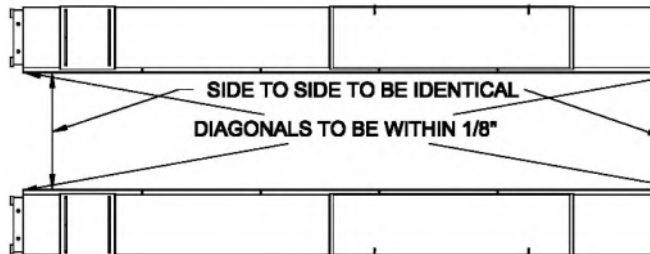

Fig 16 – Final Runway Positioning
- 18) Check the layout of the lift in the bay. (**This is the last opportunity to reposition the lift. Take a moment to determine the position of the front column anchors to ensure proper clearance from any crack, edge, or expansion joint. Ensure proper clearance for the lift operator at the Power Unit Controls**). Adjust the position of the runways so the distance from power side jack rail to idler side jack rail is the same at the front and rear and the diagonal measurements from the front tip of one rail to the rear tip of the opposite rail are within 1/8", **Fig 16**.
- 37) Recheck the four runway measurements from **Fig 16**.